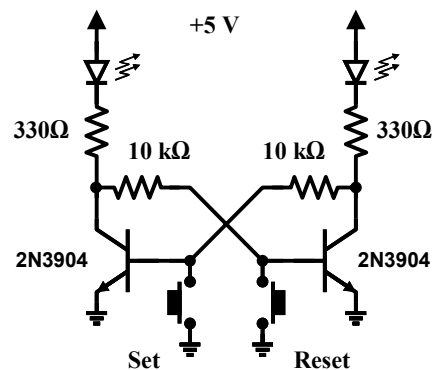

Figure 5-4 – Bistable Set-Reset "flip-flop".
To be useful, then, we need a way of toggling the circuit between the two states. One way is shown in Figure 5-4 using pushbutton switches (these could also be implemented as electronic switches with a couple of transistors).
- Construct the circuit of Figure 5-4. Record your observations.